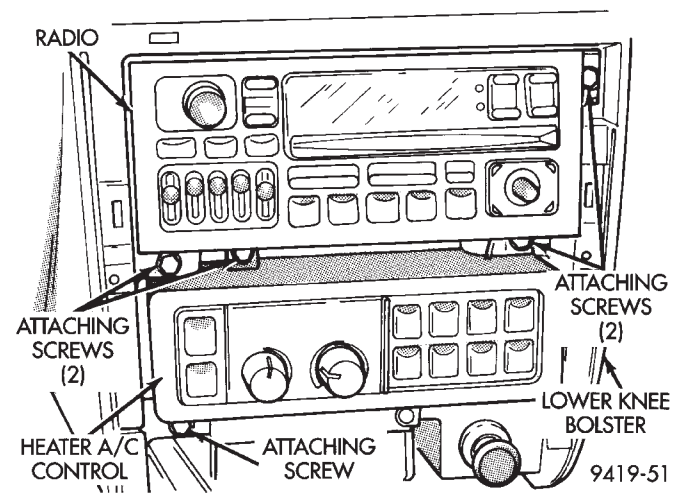

Fig. 13 Radio And Heater A/C Control Attachment
(13) Remove the 5 screws attaching the radio and the heater A/C control to the lower knee bolster panel (Fig. 13). Remove the radio and the heater A/C control assemblies.
(25) Install the radio and the heater A/C control, in the lower knee bolster. Then install and securely tighten the 5 screws (Fig. 13) attaching the radio and the heater A/C control to the knee bolster.